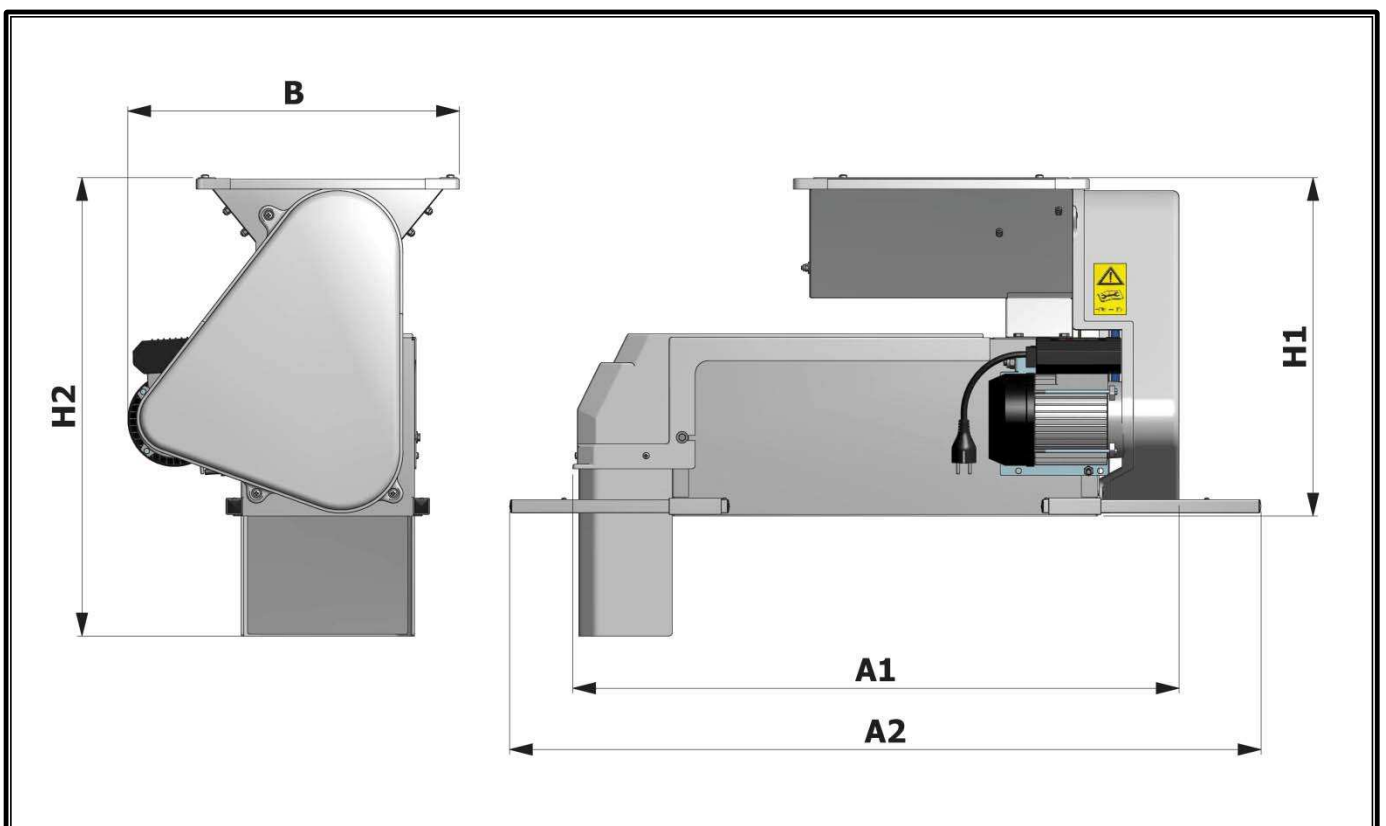

Fig. 2.2
2.2 TECHNISCHES DATENBLATT (FIG. 2.2)